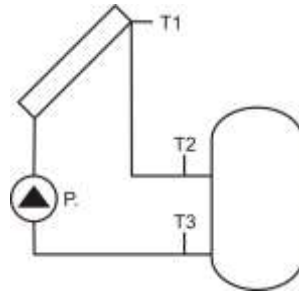
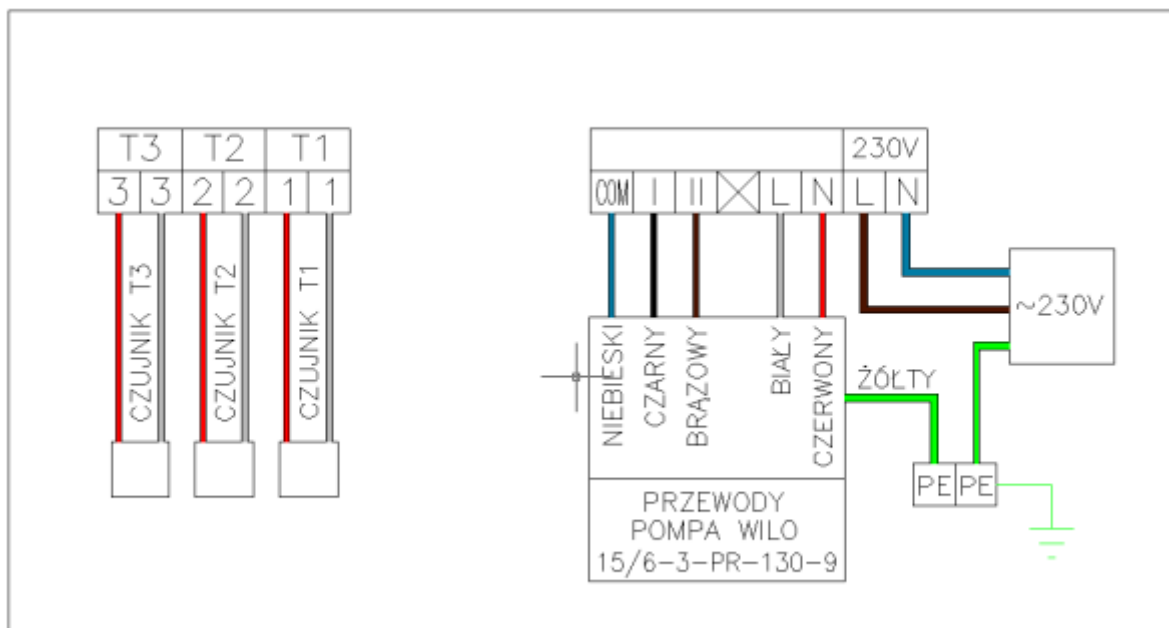

Fig. 3 Schematic diagram of the system.
Fig. 4 Electrical connection of the controller.
- c. Place the temperature sensors in the right places in the system and connect to the controller (fig. 3 and fig. 4)